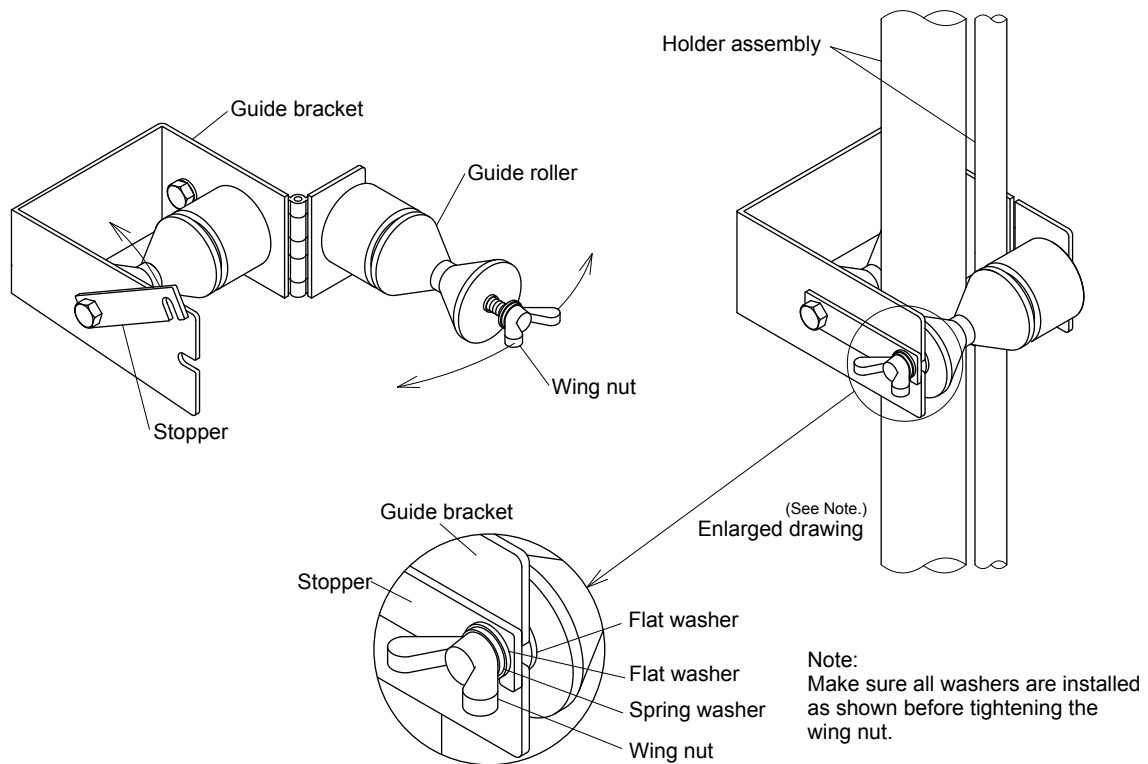

Figure 4.3 Installation and removal of Holder Assembly
- (1) As shown in Figure 4.3, loosen the wing nut attached to the guide roller, move the stopper upwards to free the roller. (Free both the upper and lower guide rollers).
- (2) Move the wing bolt to the right to open the guide bracket and place the holder assembly in the guide rollers.
- (3) Close the roller assembly, attach the stoppers and tighten the wing nuts.